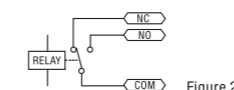

Figure 2
- Electric lock interface (See Figure 2)